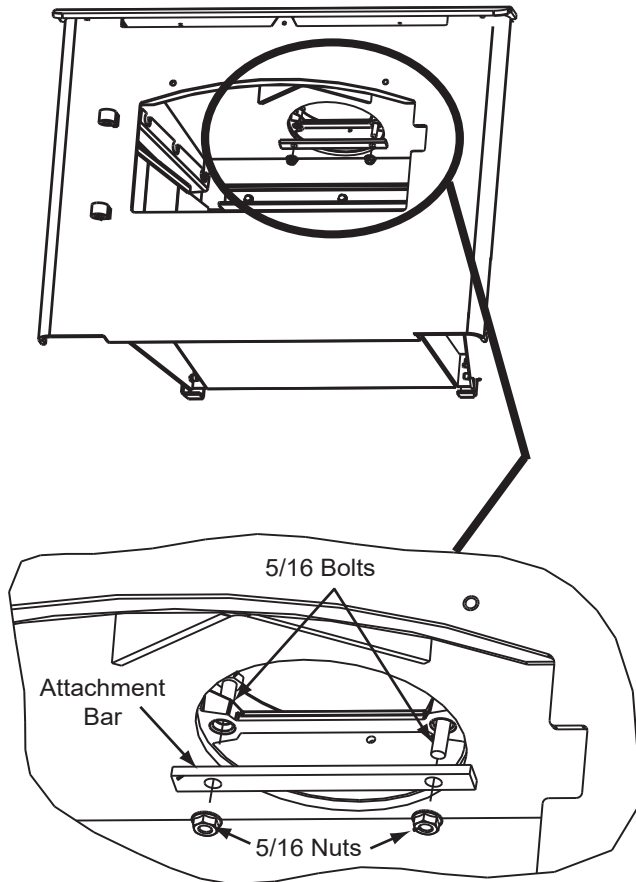

Figure 21.1
1. Once you have the appliance in place and secured, reach up through the flue opening and grab the attachment bar and pull down inside flue opening (**Figure 21.1**).